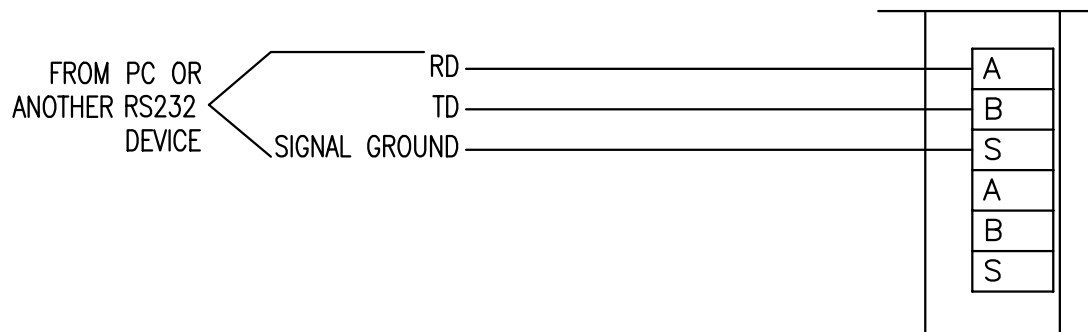

Figure 11 – Wiring diagrams for RS232 and RS485
The connections on the CX224 are labeled as A, B, and S. The two signal wires are A and B. The A terminal should be connected to the A terminal on the RS232 to RS485 converter. The B terminal should be connected to the B terminal on the RS232 to RS485 converter. The S terminal should be connected to the shield. The shield wire should be connected to ground in **one location only**, to avoid ground loops, which can cause erratic communications. Refer to Figure 11 for a wiring diagram.
Terminal A is the Transmit Data (TD) connection, terminal B is the Receive Data (RD) connection, and terminal S is the Signal Ground (SG) connection on the CX224. RS232 devices require Terminal A connected to Receive Data from the master device, Terminal B to Transmit Data from the master device, and terminal S to Signal Ground. For a 9-pin D-Sub connector on a PC, connect A to pin2, B to pin 3, and S to pin 5. Caution should be taken when using RS232, as it is not isolated. This could cause ground loops through devices, which could cause damage to the CX224 and / or other devices. Refer to Figure 11 for a wiring diagram.